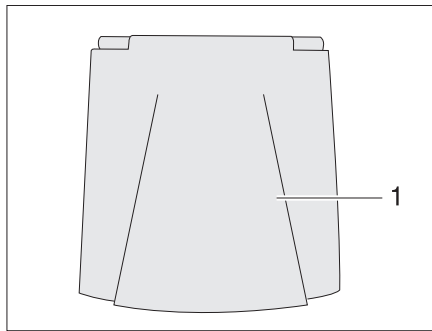

Fig. 32 Cover flap for the fuel filler neck
- Open the cover flap (Fig. 32,1).
- Insert the key in the locking cylinder (Fig. 32,3) and turn it in an anticlockwise direction.